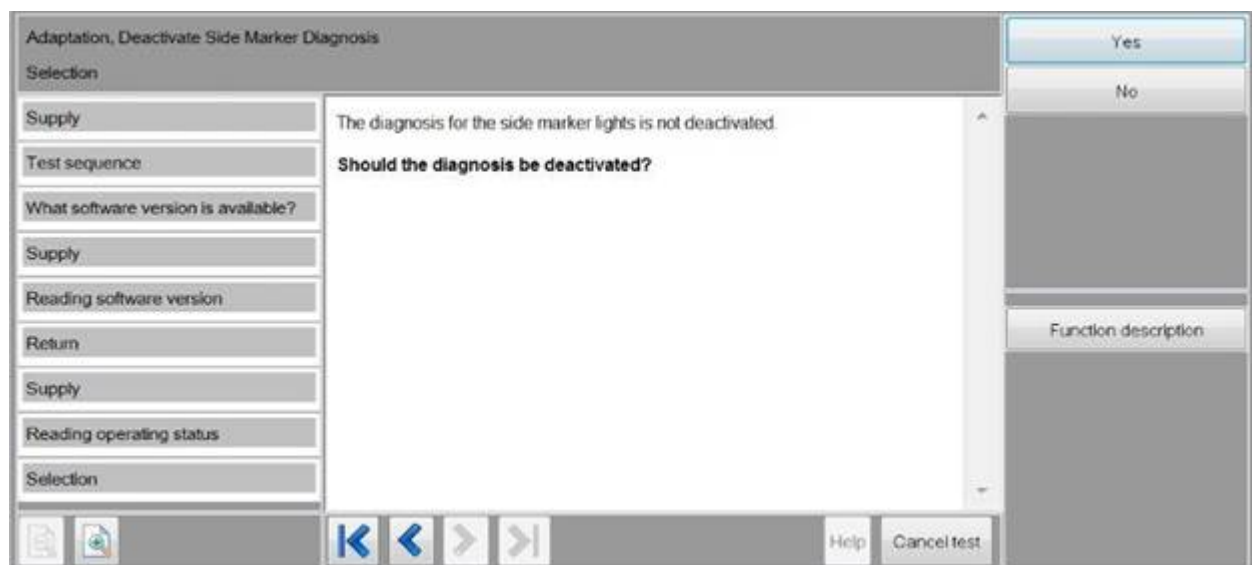

Figure 3. Set the diagnosis for the side marker lights to **deactivated**.
4. Perform the test plan, and make sure the diagnosis for the side marker lights is **deactivated** (Figure 3).